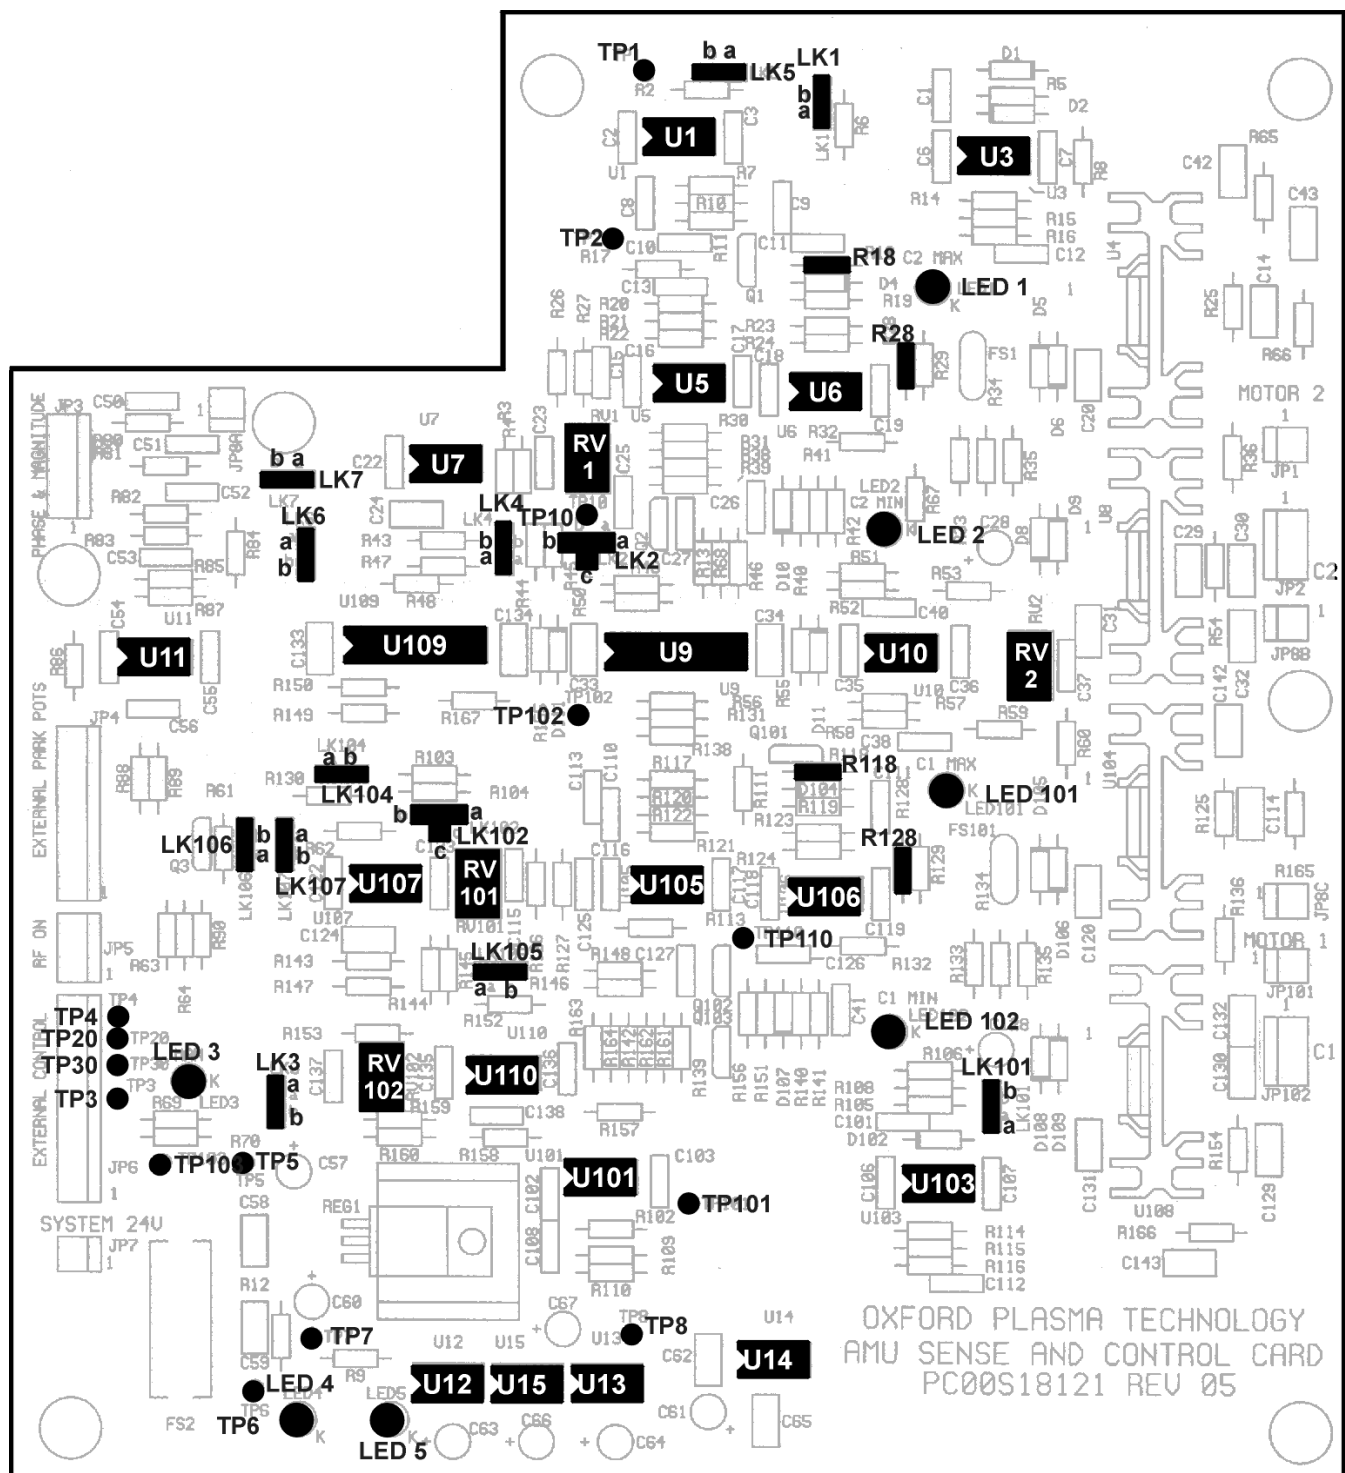
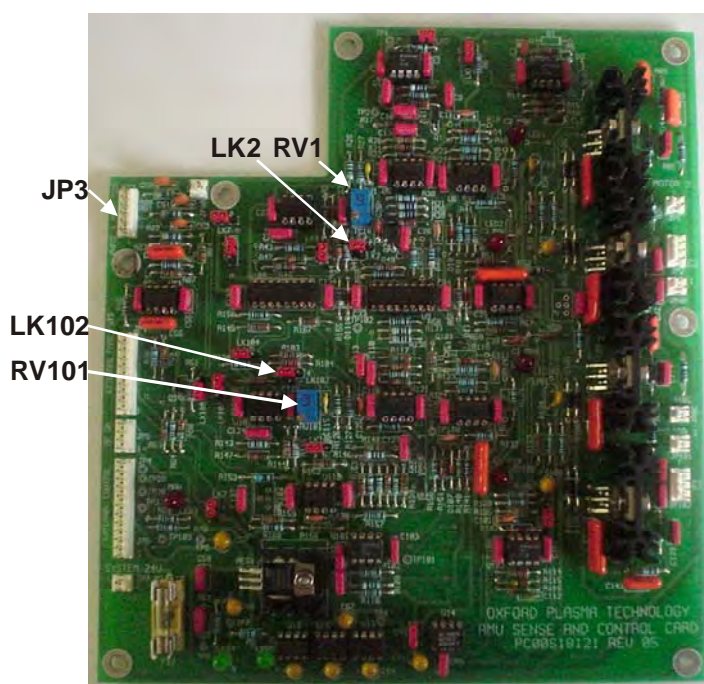

Fig 3: Sense and control PCB layout
Fig 5: Component locations
Refer to drawing 94-SE00A17801 for a circuit diagram of the AMU. The layout of the Sense and Control PCB is shown in Fig 3.
- 8) Set LK2 and LK 102 to position 'b', and then turn RV1 and RV101 fully clockwise until they begin to click (see Fig 5 or Fig 3).
- 10) Manually match to the lowest possible reflected power using the AMU control panel, and make sure a plasma is running. Adjust the error signal zero potentiometers RV1 and RV2 (located on the same side of the AMU as the RF in connector; see Fig 1), while monitoring the two error signals on JP3 pins 1 and 3 (See Fig 5). These should be less than 20 mV when a match exists. Amplified error signals are accessible at TP 10 and TP 110; these should be made as low as possible when the RF is well matched.